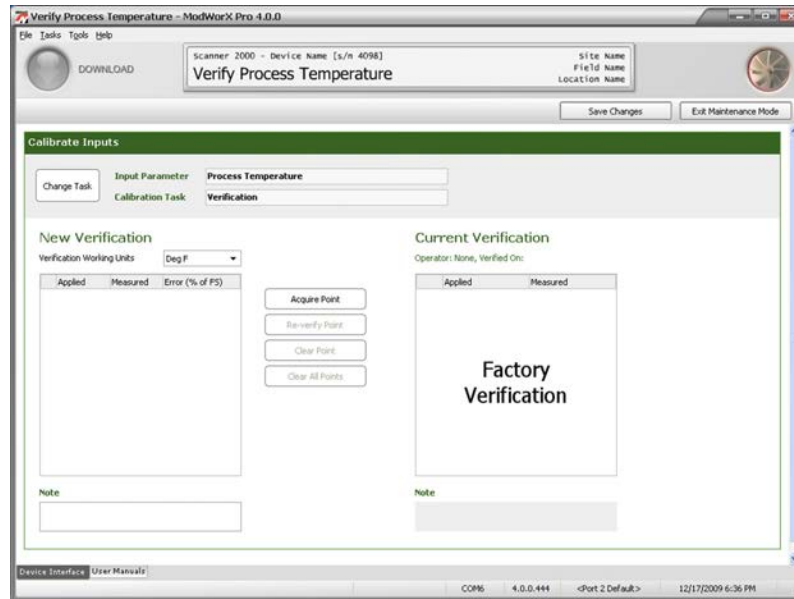
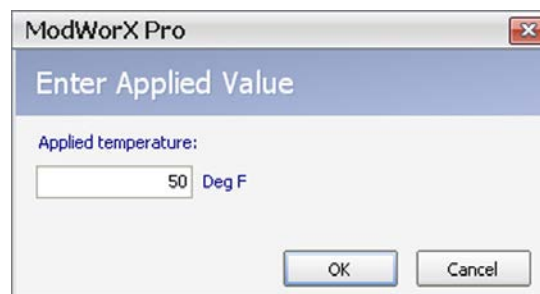

Figure 8.18
Figure 8.19
- The Verify Process Temperature screen will appear, and the input parameter and calibration task selections you made will appear at the top of the screen (Figure 8.18).
- Apply a known temperature to the calibration test device (for example, 50 degrees F) and click **Acquire Point** (Figure 8.18). An Enter Applied Value dialog will appear (Figure 8.19).